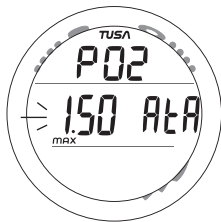

Fig. 47 - SET PO2 ALARM
**SET PO2 ALARM** information includes (Fig. 47):